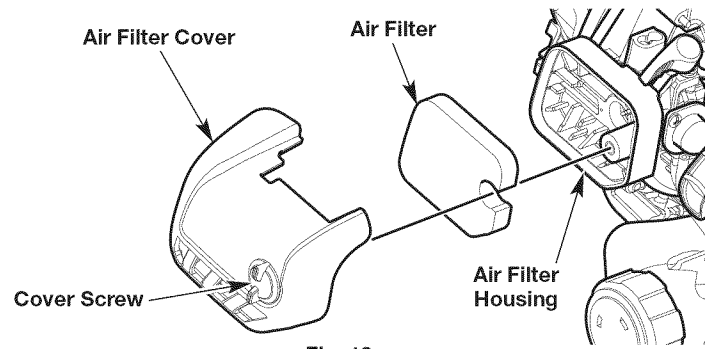

Fig. 18
1. Open the air filter cover by unscrewing the cover screw (Fig. 18).
2. Remove the air filter from the air filter housing (Fig. 18).